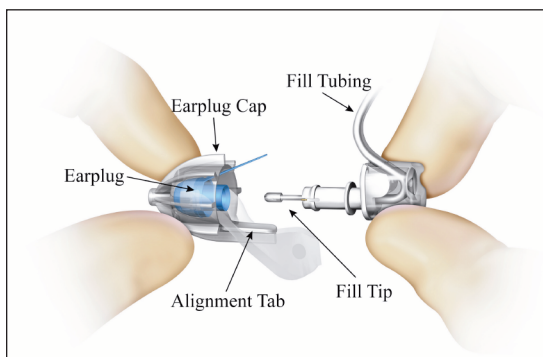

Figure 12. Attachment of Earplug to Earset
- b. Hold the Earplug Cap with the Alignment Tab opposite the Fill Tubing of the Earset (**Figure 12**).